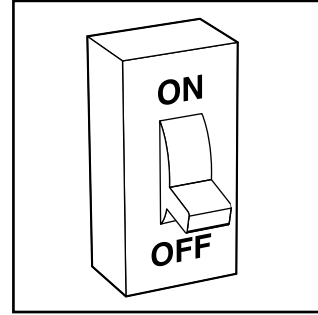

Fig. 17 - Turn Off Electrical Supply
- Turn off electrical supply to the furnace. (See Fig. 17.)
1. Turn off electrical supply to furnace. (See Fig. 17.)